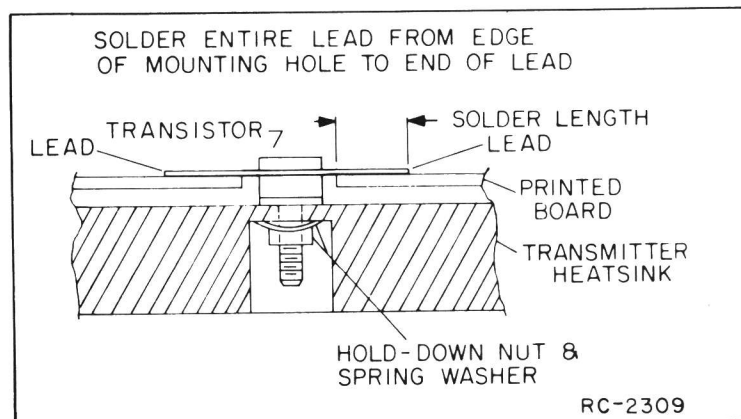

Figure 9 - Lead Forming
6. Make sure that the transistor leads are formed as shown in Figure 9 so that the leads can be soldered to the printed circuit pattern, starting from the inner edge of the mounting hole.